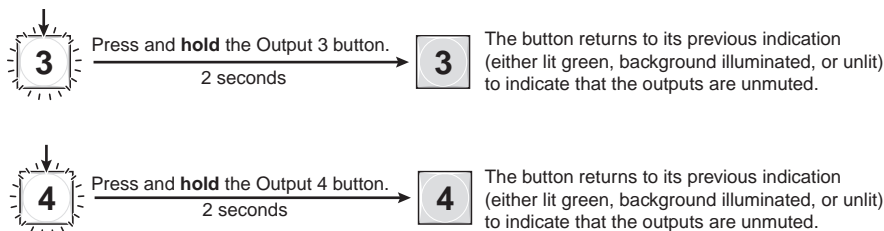

Figure 3-54 — Unmute the outputs
5. **One at a time**, press and **hold** the Output 3 and then the Output 4 buttons (figure 3-54) for approximately 2 seconds until the buttons lights steadily. The output 3 and output 4 video and audio signals are unmuted.